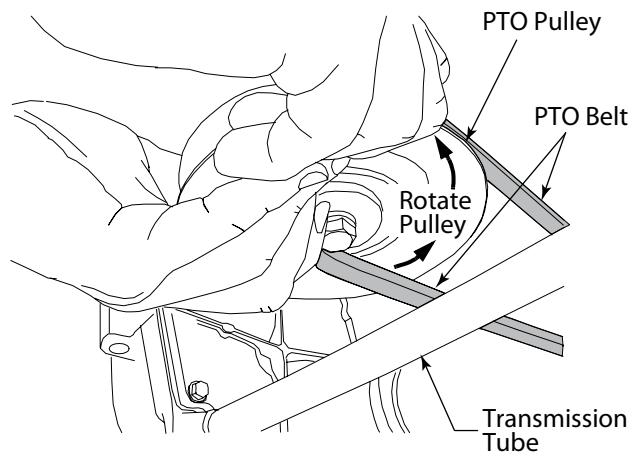

Figure 7-5
- While still holding the belt downward, continue turning the PTO pulley until the belt is rolled off the pulley. Refer to Figure 7-5.
- Pull the right side of the belt rearward and place the narrow V side of the belt into the PTO pulley. See Figure 7-5.
- While holding the belt and pulley together, rotate the pulley to the left (See Figure 7-5). Continue holding and rotating the pulley and belt until the belt is fully rolled into the PTO pulley.